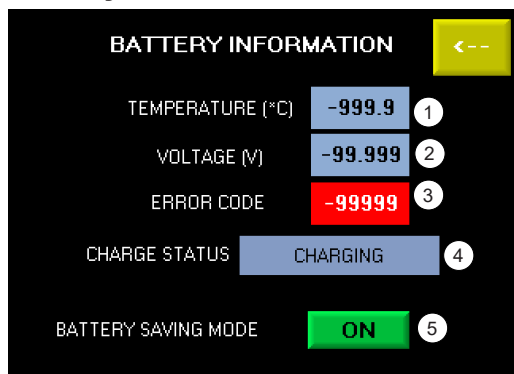
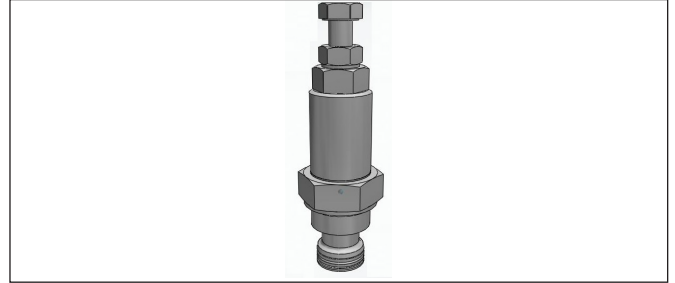

Figure 10: Battery Information Screen
Figure 11: Relief Valve
1. **Battery Info:** by pressing this button, the system will display all relevant battery information (see figure 10).
By adjusting the flow control valve to reduce the flow rate, the operator may inadvertently cause a restriction that causes the pressure in the cylinder to increase above maximum system rating. Monitor the pressure during lowering via manometer on A line (see Figure 10, item 11; and Figures 11, 12 and 13, item 12).